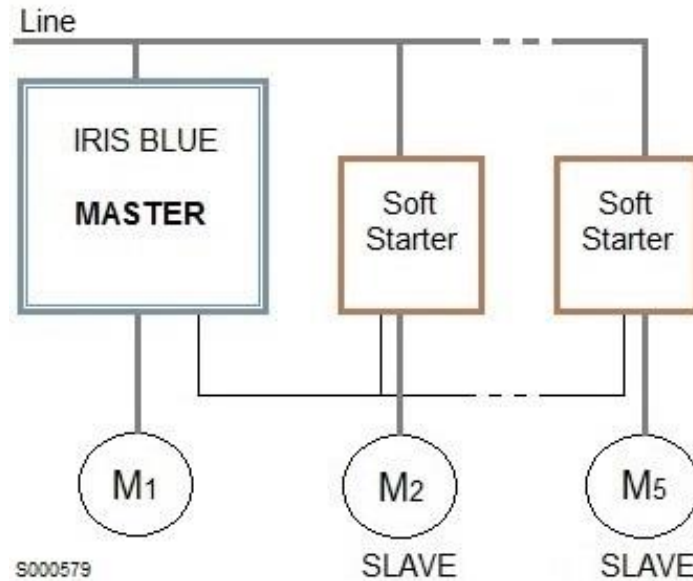

Figure 70: Block diagram of MMC operating mode – Direct On Line – Controlled start through a Soft Starter
- Controlled start through a Soft Starter. See Figure 70.